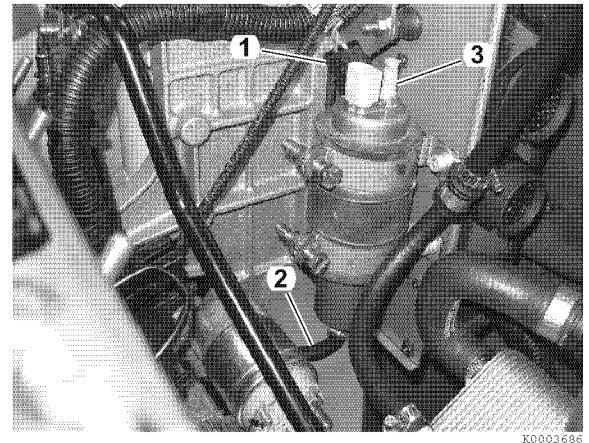

Figure 6-21
3. Disconnect electrical connector (1, **Figure 6-21**).
4. Remove supply line (2, **Figure 6-21**) and pressure line (3, **Figure 6-21**) from fuel feed pump.